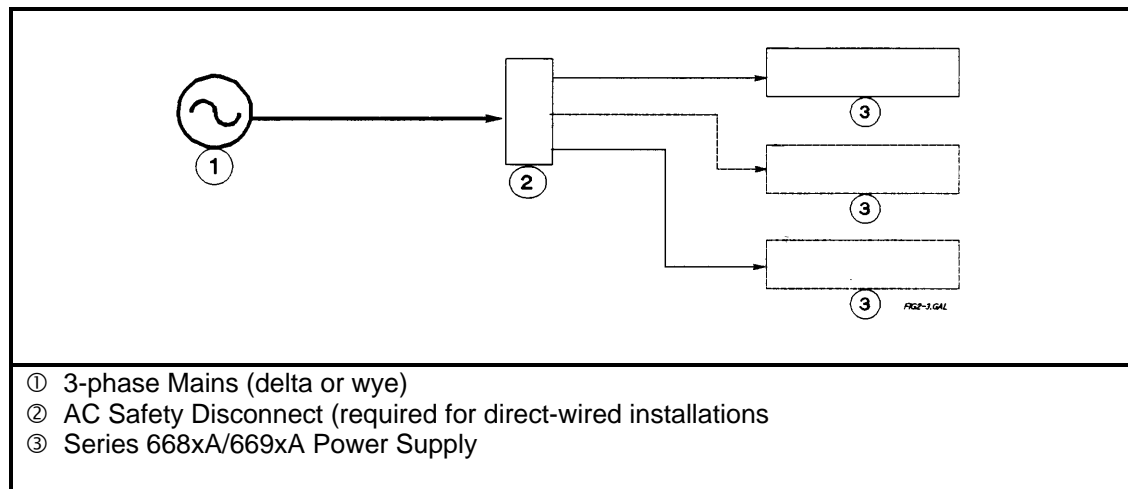

Figure 2-4. Series 668xA/669xA Overall Wiring Diagram.
The Series 668xA power supply requires a 3-phase power source that provides 7350 VA (6000 W) maximum. The supply has a delta input (no neutral connection) and will accept power from either delta (triangle) or wye (star) sources. Two voltage ranges are available (see "AC Input Ratings" in Table 1-4a). *In order to maintain phase current balancing, the power source should be a dedicated line with only Agilent Technologies Series 668xA/669xA supplies drawing current from it.* A disconnect box located near the power supply (see Figure 2-4) is recommended for all installations and is *mandatory for direct-wired installations.*
The Series 669xA power supply requires a 3-phase power source that provides 9000 VA (7950 W) maximum. The supply has a delta input (no neutral connection) and will accept power from either delta (triangle) or wye (star) sources. Two voltage ranges are available (see "AC Input Ratings" in Table 1-4a). *In order to maintain phase current balancing, the power source should be a dedicated line with only Agilent Technologies Series 668xA/669xA supplies drawing current from it.* A disconnect box located near the power supply (see Figure 2-4) is recommended for all power cords with plugs and is mandatory for hard-wired power installations.
- c. **Series 668xA** - Unscrew the fuse caps from the rear panel (2, Figure 2-4). Verify that the fuse is as specified on the label. Replace the fuse.